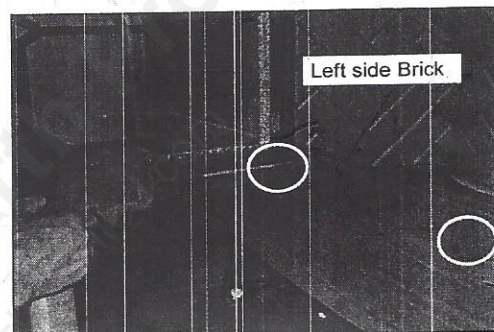

Figure 2
3. Using a Phillips head screw driver remove 2 screws, 1 on the left side and 1 on the right, at bottom of firebox opening. **Figure 2.**